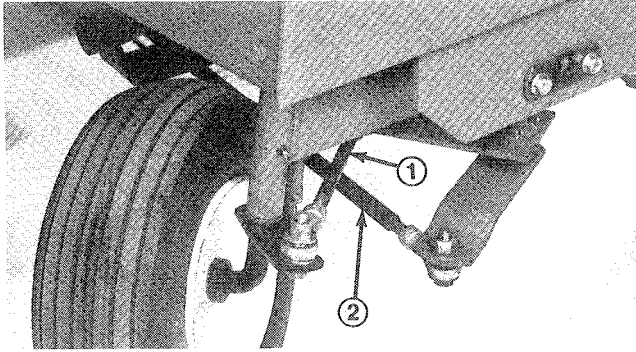

Figure 19
2. Check clearance between left tire and tie rod (Fig. 19). There should be  $2.00 \pm .25$  clearance at this position.